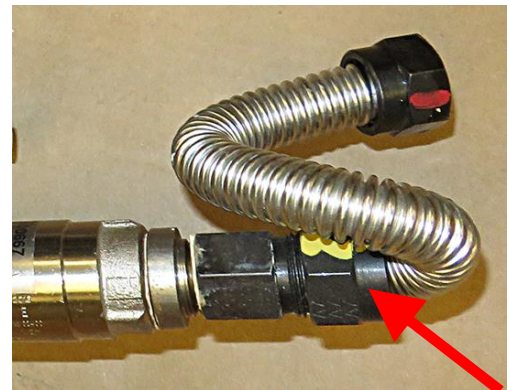

Figure 65
64. Reattach the flexline disconnected in step 56 (see Figure 65).